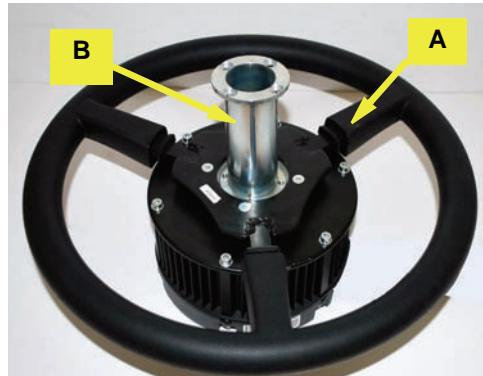

Figure 2b: Inserting shaft adapter into steering wheel
- Place the VSi steering wheel **A** on a clean surface with the wheel facing up. Insert shaft adapter **B** into steering wheel **A** (Figure 2b).